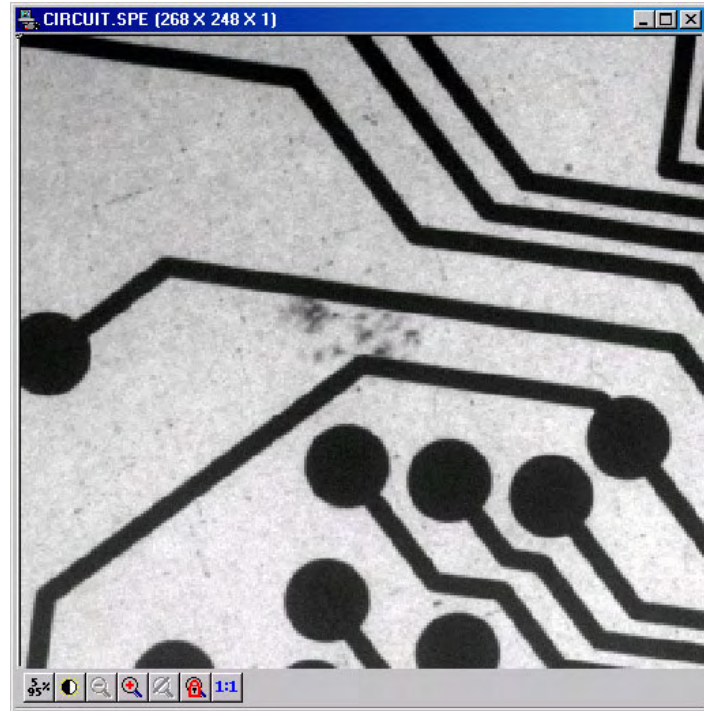

Figure 38. Circuit.spe Displayed
5. Either double-click on the name of the file you want to open or single-click on the name and then click on the **Open** button. For example, with Image selected, double-clicking on Circuit.spe would open that file, producing the display shown in Figure 38. Note that there are many different ways of controlling how the image will be displayed, as described in Chapter 5.